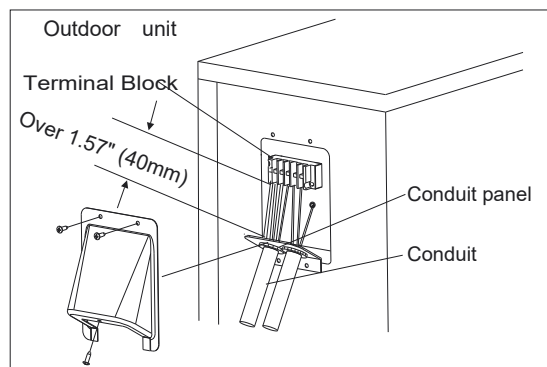

FIGURE 11 – Field Wiring
5. Connect the conduit to the conduit panel (see Fig. 11).